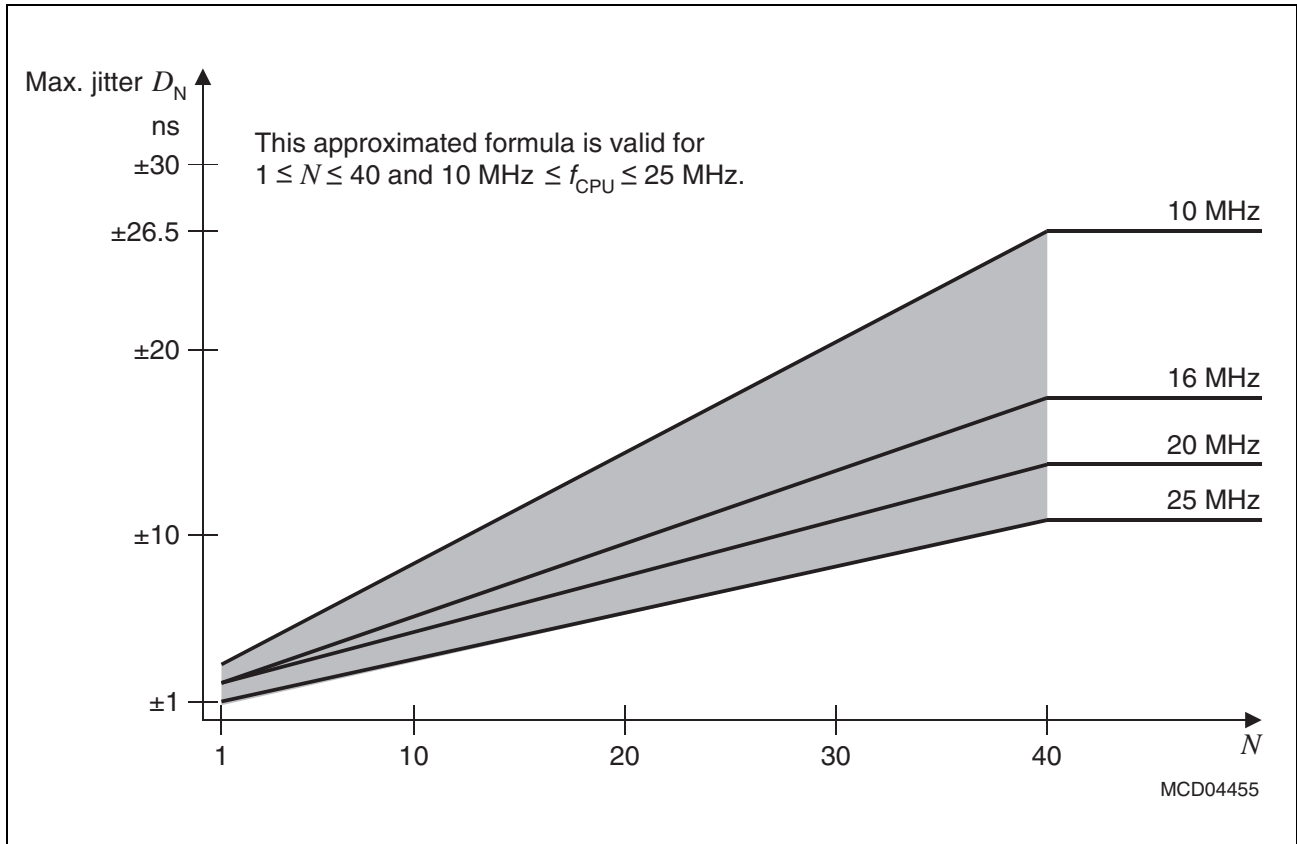

Figure 11 Approximated Maximum Accumulated PLL Jitter
The timings listed in the AC Characteristics that refer to TCLs therefore must be calculated using the minimum TCL that is possible under the respective circumstances. The actual minimum value for TCL depends on the jitter of the PLL. As the PLL is constantly adjusting its output frequency so it corresponds to the applied input frequency (crystal or oscillator) the relative deviation for periods of more than one TCL is lower than for one single TCL (see formula and **Figure 11**).
*Note: For all periods longer than 40 TCL the $N = 40$ value can be used (see **Figure 11**).*